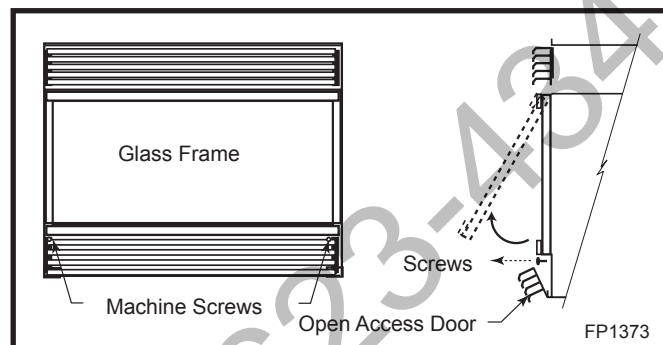

Fig. 16 Remove glass frame.
3. Remove two (2) machine screws from the bottom of glass frame. (Fig. 16)